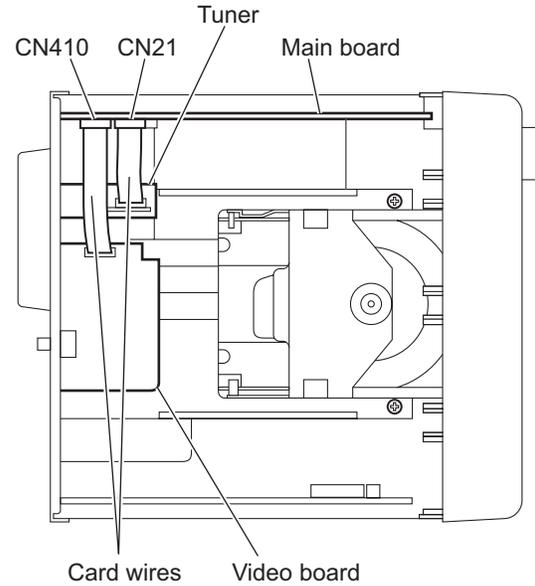

Fig.8
### 3.1.3 Removing the tuner (See Figs.8 and 9.)
- From the top side of the main body, disconnect the card wire from the connector CN21 on the main board. (See Fig.8.)
### 3.1.4 Removing the video board (See Figs.8 and 9.)
- From the top side of the main body, disconnect the card wire from the connector CN410 on the main board. (See Fig.8.)
Remove the tuner and video board as required. (See Figs.8 and 9.)